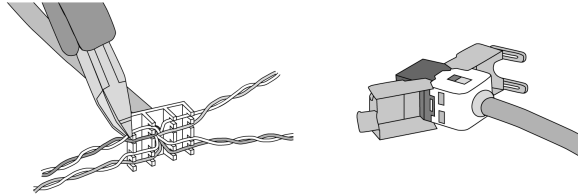

Figure 5: Connection of adapter connector to Ethernet cable
- Connect Ethernet cable to the Ethernet adapter plug. To do this, strip the Ethernet wires, do not skin, and insert into the cover of the adapter plug. Shorten any wires that are jutting out and push the cover onto the adapter plug in the correct position (Figure 5).
- Connect the supplied Ethernet adapter cable to the terminal (11) and Ethernet adapter plug.